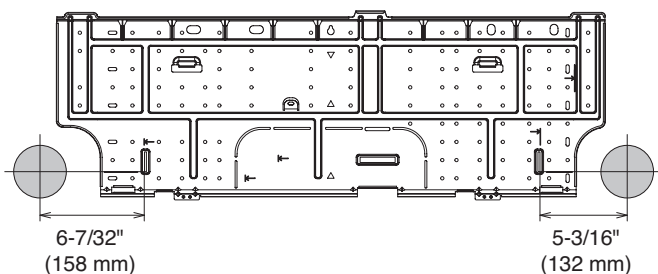

Fig. 9
- (1) Place the rear panel from the indoor unit on the wall at the location selected. Make sure the panel is horizontal, using a carpenter's level or tape measure to measure down from the ceiling. Wait until after cutting the hole before attaching the rear panel to the wall.
- (2) Determine which side of the unit you should make the hole for tubing and wiring. (Fig. 9)
In the case of left-rear tubing, use the measurement points 6-7/32" (158 mm) from the marked position on the rear panel for precise placement of the hose outlet. (Fig. 9)